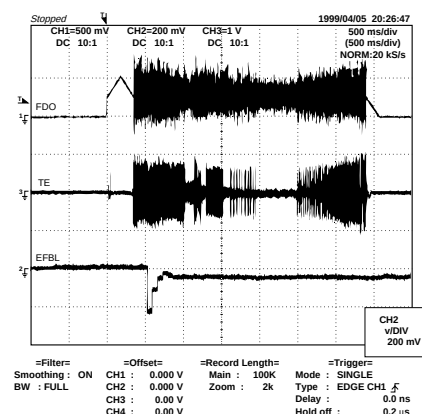

Figure 12-2
- Tracking balance adjustment (waveform drawing Fig.12-2 EFBL)